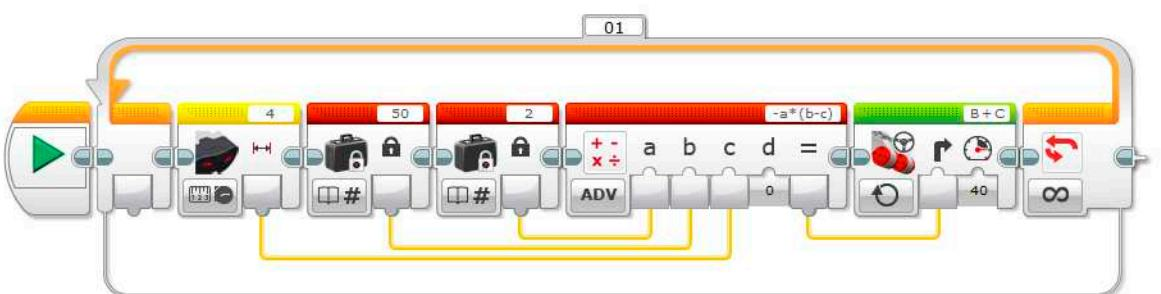

Figure 7-4: A smooth wall-following program using Steering that is proportional to the robot's distance from the wall
Notice, in the program shown in Figure 7-4, that the IR Sensor's Proximity value is fed into Input **c** of a Math block in Advanced mode. The two Constant blocks are there to show the value of the desired distance from the wall, R (50), and the gain, K (2). The *gain* controls the strength of the robot's reaction: The larger the gain, the more "nervous" the behavior of the robot; the smaller the gain, the weaker the steering intervention will be, but the robot may not be able to handle corners. Adjusting the gain involves a trade-off between smoothness and reaction time. A gain of 2 works well in this program.
Try changing the gain and the proximity reference in the program shown in Figure 7-4 to see how the robot's behavior changes.
Modify the wall-following program shown in Figure 7-4 so that you can set the reference distance from the wall before starting the loop that controls the robot. When you press **Enter** on the EV3 Brick, you should be able to set the distance and start the robot; when you press **Enter** again, the robot should stop and return to setup mode. (Hint: Put the wall-following loop inside an external loop.)
As noted earlier, the program in Figure 7-4 fails if the robot is too far from a wall. Once you've learned all of the programming in this book (including the Timer block, which I'll discuss in Chapter 10), develop a strategy to overcome this limitation. For example, the program could detect that the robot is spinning in place by checking whether the distance from a wall is too great for a long period of time; then it could make the robot go straight for a while, hopefully getting closer to a wall.